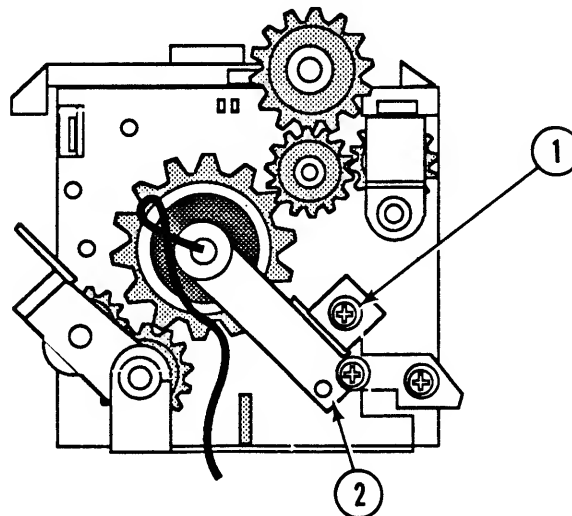

FIGURE 15
12. Remove the Phillips screw (Figure 15, #1) that secures the right heater support (Figure 15, #2) to the fuser assembly.